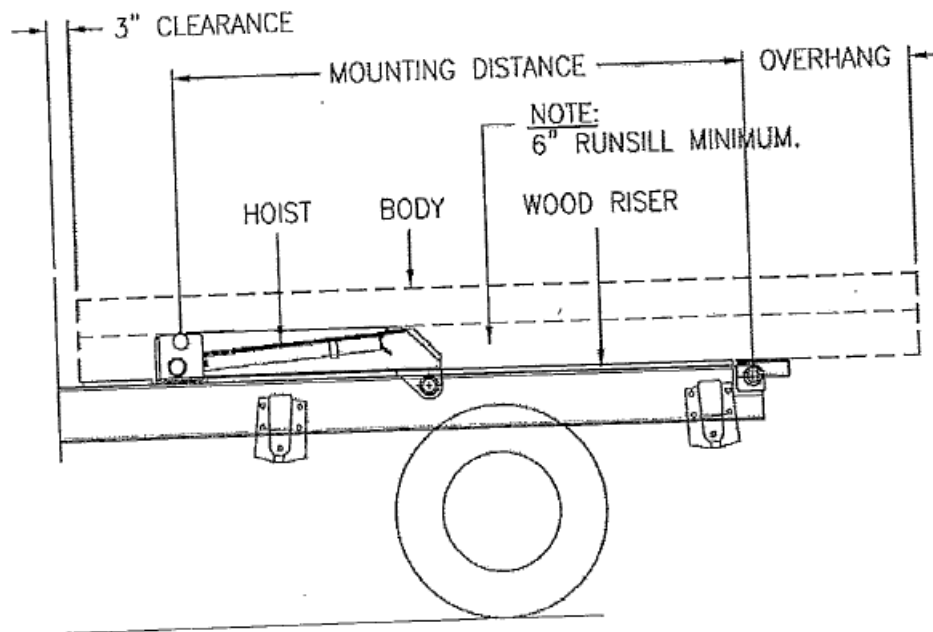

Figure 5
Place hardwood risers on frame to either side of hoist lower mount angles. Verify that top of risers are flush with rear hinge pivot pads (see figures 5 or 6)
1. Rear Hinge (see figures 5,6 and 7)
C. Securely weld rear hinges to body runsills (see figure 5,6, and 7)